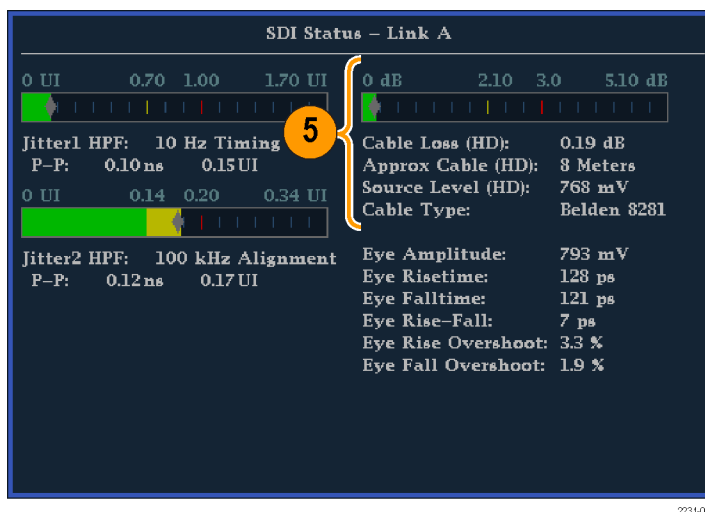

Figure 61: Cable loss information in the SDI Status display
5. Use the Cable Loss thermometer and readouts to monitor the cable loss. (See Figure 61.)